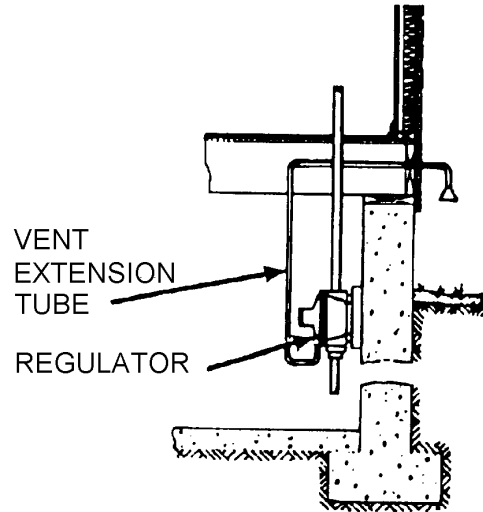

Figure 3. Pressure Regulator Installed Indoors
- (c) **Pressure Regulators Installed in Buildings.** Pressure regulators installed inside of buildings should be vented outside of the buildings with tubing or pipe at least the same size as the thread size of the regulator vent. The open end of the vent extension tube must be pointed downward, as illustrated in Figure 3, on the next page.